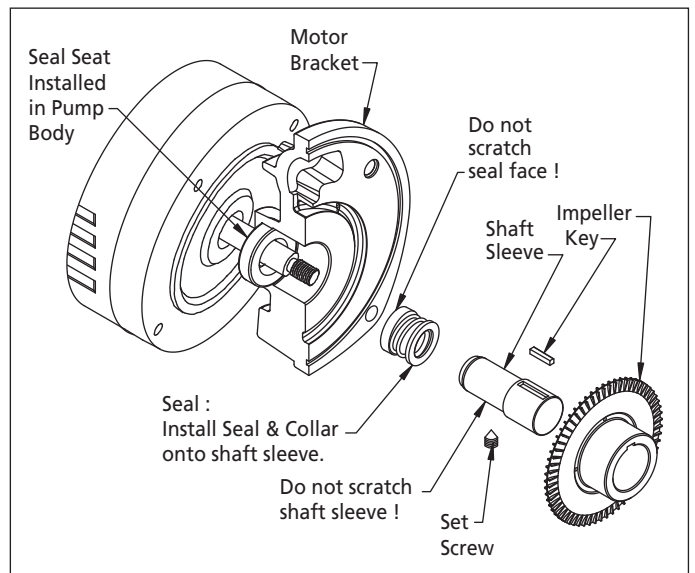

Figure 8 - Seal, Collar, Sleeve and Impeller Installation
5. Assemble the seal over the pump shaft sleeve. If needed, a light coating of soapy water can be used on the inside of the seal bellows to facilitate for easier installation (see Figure 8).
provide a better grip for tightening. Tighten setscrew on sleeve (See Figure 8).
7. Assemble the impeller over the pump shaft sleeve. Make sure the impeller floats freely (see Figure 8).
8. Assemble the o-ring gasket and attach the cover with the four screws. Torque to 15 to 20 lb-ft (See Figure 8).